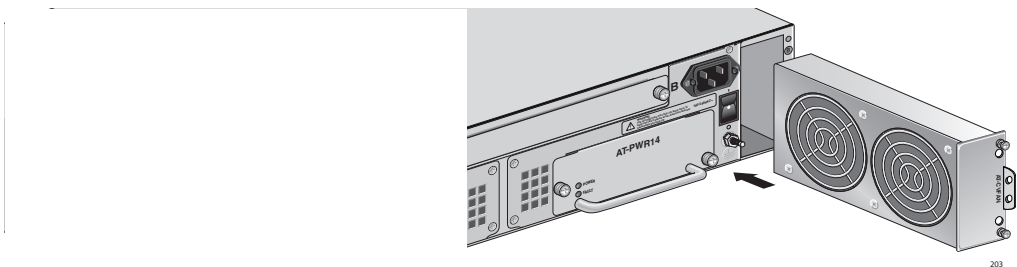

Figure 63. Inserting an AT-CVFAN Module into Fan Slot B
- b. To install a new fan in slot B, turn the fan so that the handle is on the right and slide the new fan module into the fan slot, as shown in Figure 63, until the front of the fan module is flush with the front of the chassis.